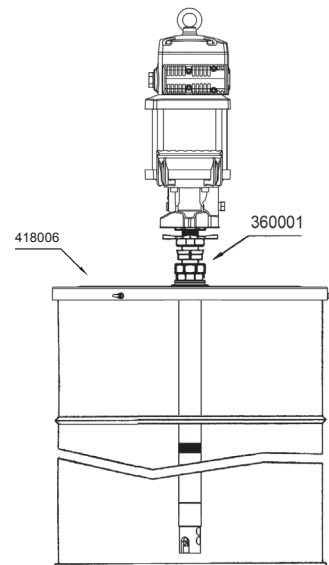

Fig. 3
- Mounting with cover, 418006 for 408 lb (185 kg) drum and 418016 for 110 lb (50 kg) drum and bung adaptor 360001. Fasten the cover onto the drum and screw the nut of the bung adaptor securely into the 2" bung opening of the cover. Insert the pump through the nut and adjust it with the star nut to the desired height (see figure 3).